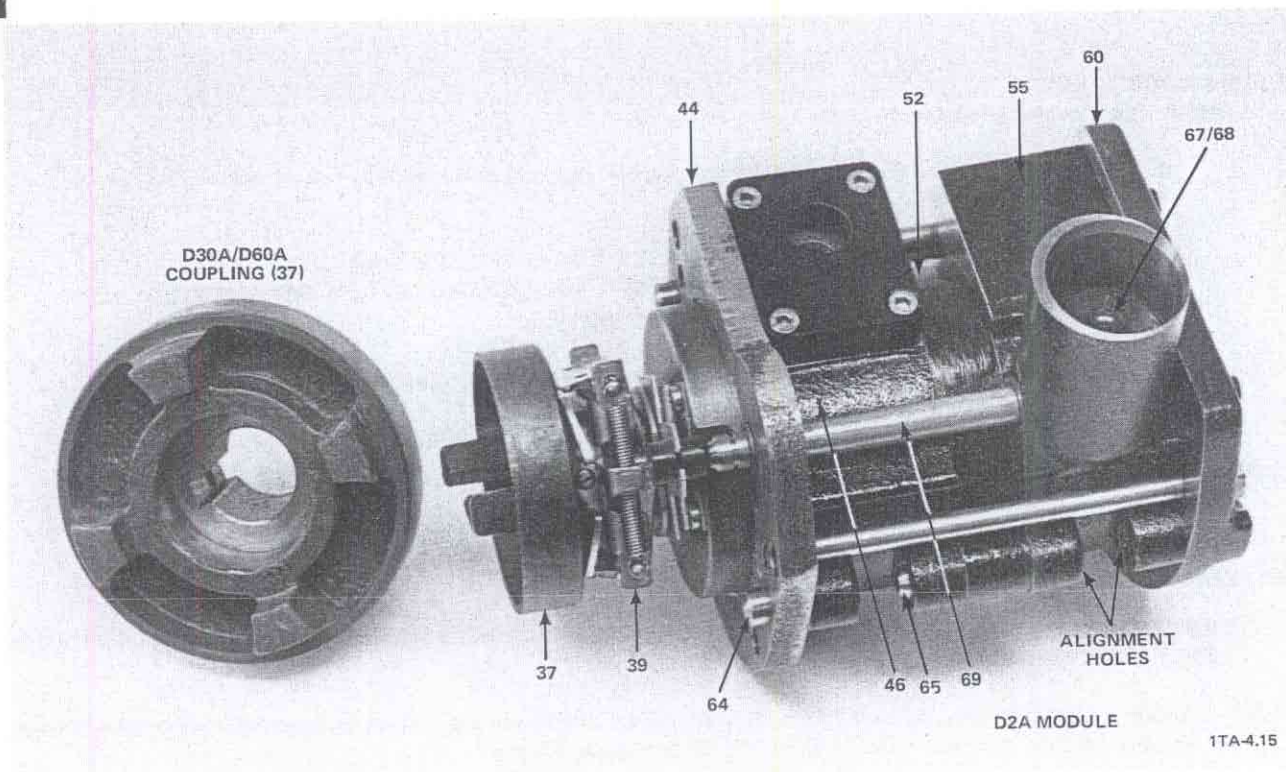

Figure 5-3. Module, Side View (D2A Pump Model Shown)
\*The module is the unit made up primarily of the shaft, rotors, vanes, coupling, centrifugal switch, end plates, pump cylinders, and center bearing. Figure 5-3 shows a module.
**CAUTION:** USE CARE WHEN HANDLING THE MODULE TO AVOID BENDING THE LEVER (41) OR CENTRIFUGAL SWITCH (39) (see Figures 5-3 and 5-4).
- C-1** Using a large pair of long nose pliers, pull the valve disk (67) and attached brass piston (68) out of the intake portion of the high vacuum pump cylinder (55) (see Figures 5-3 and -11).
- C-2 CAUTION:** IF A PULLER IS USED TO REMOVE THE COUPLING (37), BE CAREFUL TO AVOID DAMAGING THE CENTRIFUGAL SWITCH (39).
Using a small screwdriver, loosen the setscrew that secures the coupling (37) to the shaft. Pull the coupling off of the shaft (see Figure 5-3).
- C-5 NOTE:** For use during reassembly, the centrifugal switch end with the split halves faces the coupling (37).
For the D2A, D4A, D8A, and D16A models only, loosen the one or two setscrews that secure the centrifugal switch (39) to the coupling (37) (see Figure 5-3).
- C-14** Pull the air inlet tube (69) from the front end plate (44) or high vacuum stage pump cylinder (55). (See Figures 5-3 and 5-8.)